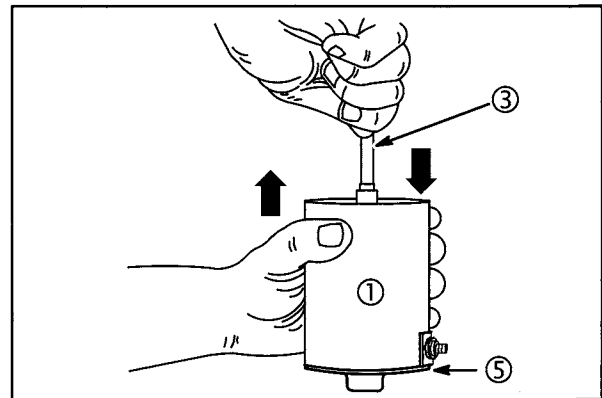

Fig. 15
3. Hold the armature (3) and commutator end cap (5) against a work surface while sliding housing (1) off the armature, Fig. 15.